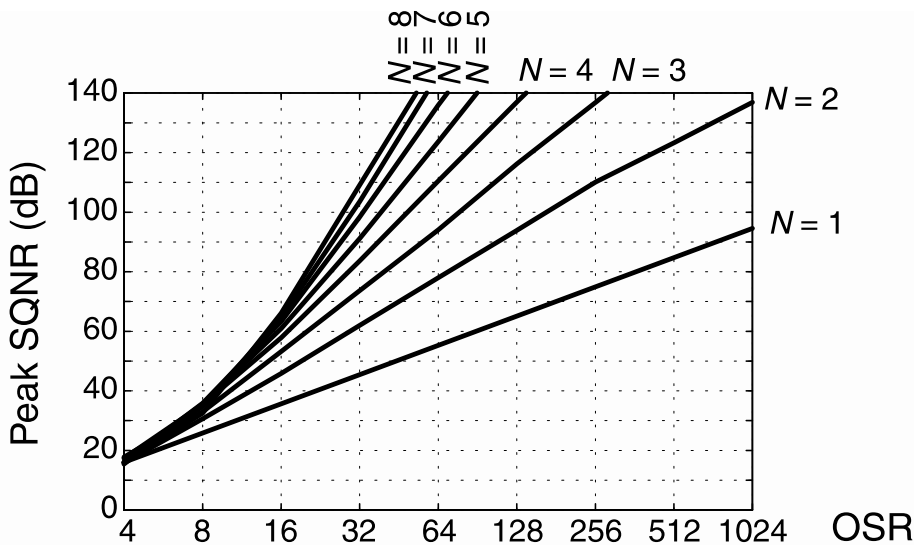

Figure 4.18 Empirical SQNR limit for 1-bit modulators of order N .
- Experience (e.g. Figure 4.14 in Adams & Schreier or Figure 4.18, 4.19, 4.20 in Understand Delta-Sigma Data Converters)